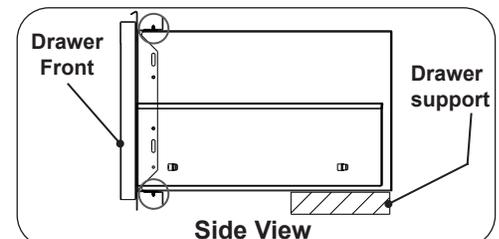

Fig. 4-6 Drawer Installation (Side View)
1. In order to properly support the weight of your drawer, it is necessary to provide a secure, level surface in the rear of the unit (see Fig 4-6). This may be accomplished by using bricks, 2 X 4's, etc. Be sure that the height of this rear support is $\frac{1}{8}$ " higher than that of the front opening support, so that your drawer sits level.